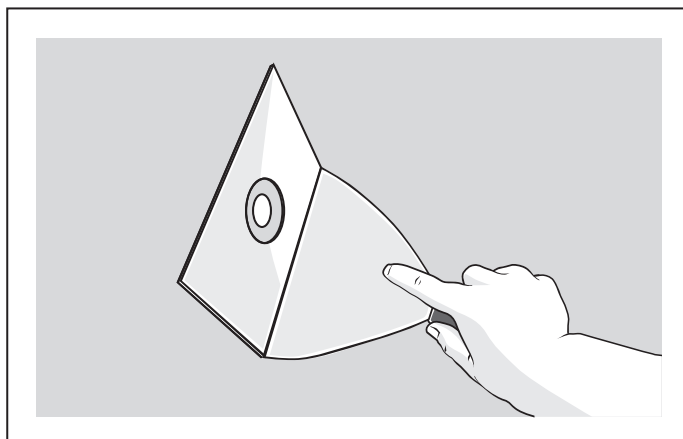

FIGURE 12 FIX BASE COAT APPLICATOR OVER EPOXY FILLED SCREW HEAD
7. Apply James Hardie base coat over epoxy using the base coat applicator. See Figures 12, 13, and 14.